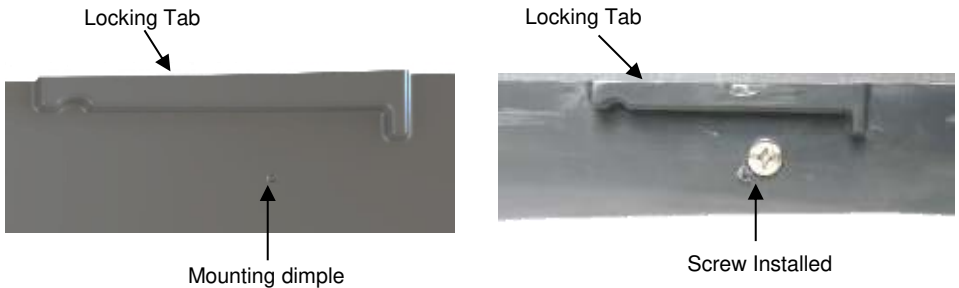

Figure 4: Screw Install
- 6.) Locate the four (4) mounting dimples on the inside perimeter of the connector flange (Fig.4). Install four (4) screws from bag "B" into mounting dimples to attach the connector flange to the riser pipe. Drive the screws until the head makes contact with the connector flange & slightly compresses the flange